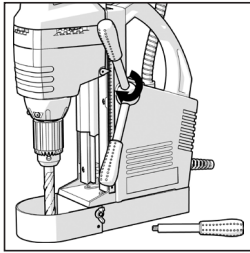

Fig. 1
- Attach the three handles into the spindle hub ensuring that they are fully seated. **(Fig. 1)**